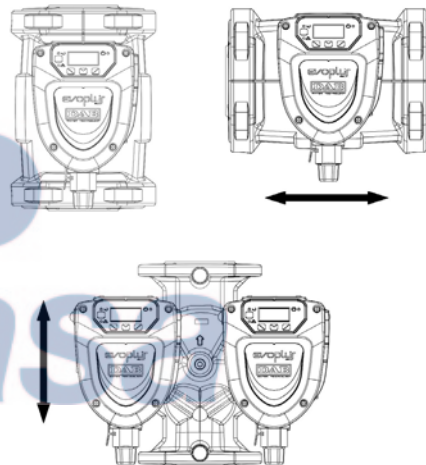

Figure 1: Assembly position
**Always install the EVOPPLUS SMALL circulator with the motor shaft in a horizontal position. Install the electronic control device in a vertical position (see Figure 1)**